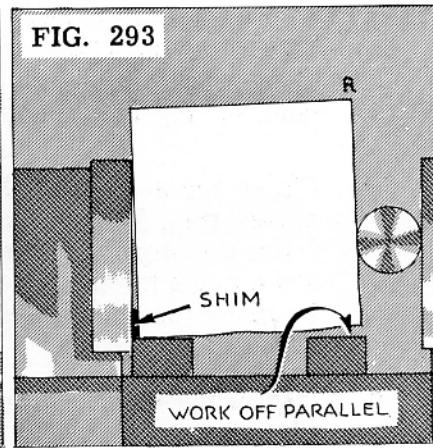

FIG. 293
- Place along the bottom of the work a paper shim similar in thickness to that of the feeler used for measuring the opening between the square and the work (Fig. 293).
The shim will cause the work to tilt slightly in the vise, raising its right-hand edge. As a result, the cut will remove slightly more material at (R), Fig. 293, than at the other side of this surface.
4. Place the paper shim along the top (Fig. 295) to tilt the work slightly in a direction opposite to that in Figure 293. The tool will now remove slightly more material at (L) Fig. 295 than at the other end of this surface.